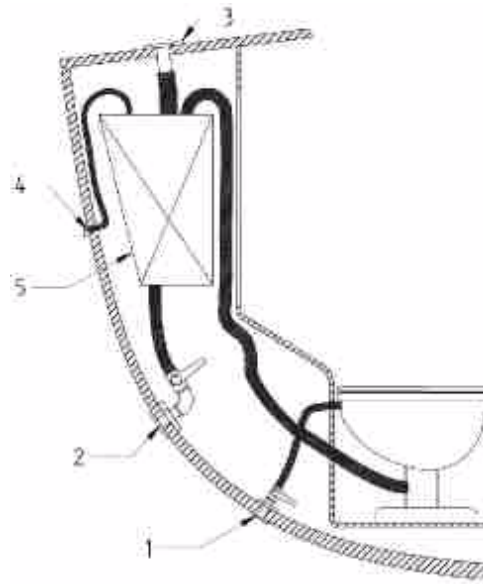

Fig. 1
There are two different types of WHT: The simple tanks (Fig. 1) and the tanks equipped with 3 way valves (Fig. 2).
- Fig. 1: Open the draining valve (ref. 2).
- Fig. 1: Make sure the draining valve is closed (ref. 2) (valve handle perpendicular to the pipe).